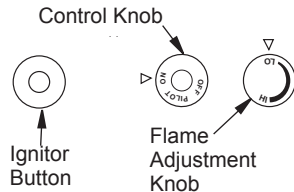

Figure 31- Control Knob and Ignitor Button Location
3. Press in and turn control knob clockwise  to the OFF position (see Figure 31).
5. Wait five (5) minutes to clear out any gas. Then smell for gas, including near the floor. If you smell gas, STOP! Follow B in the safety information, page 22. If you don't smell gas, go to the next step.
6. Press in and turn control knob counterclockwise  to the PILOT position. Press in control knob for five (5) seconds (see Figure 31, page 23).